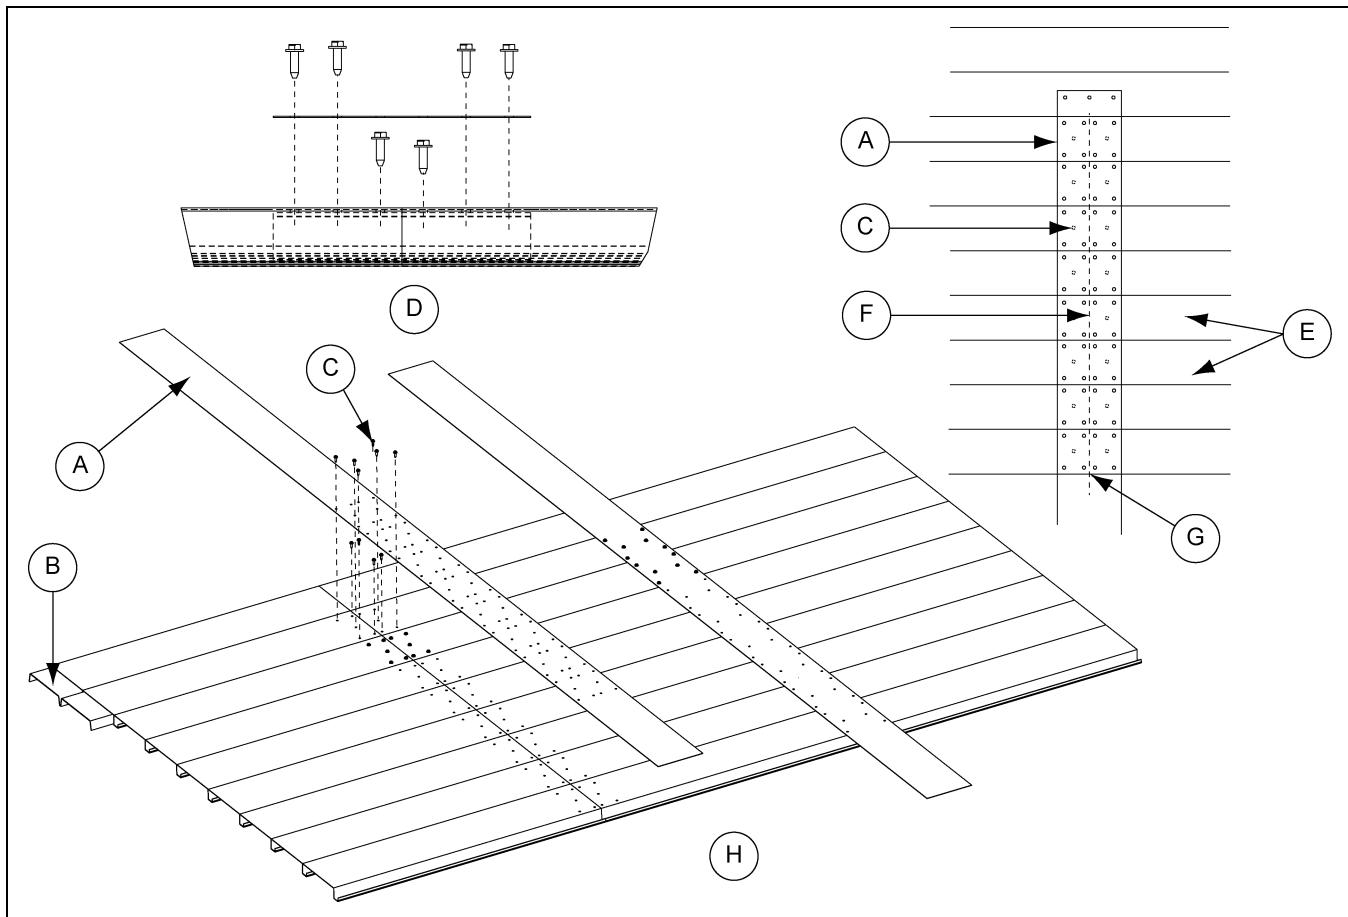

Figure 5G
2. Place the undersplice (B) under the planks. Make sure the undersplice (B) extends 3" across each plank.
3. Install the undersplice (B) to the planks using two (2) self-tapping screws (C) per splice to hold it in place. (*See Figure 5G.*)
4. Place the overslice (A) over the length of the plank splice seams.
5. Install the overslice (A) to the planks and undersplices (B) using three (3) self-tapping screws (C) per each undersplice.